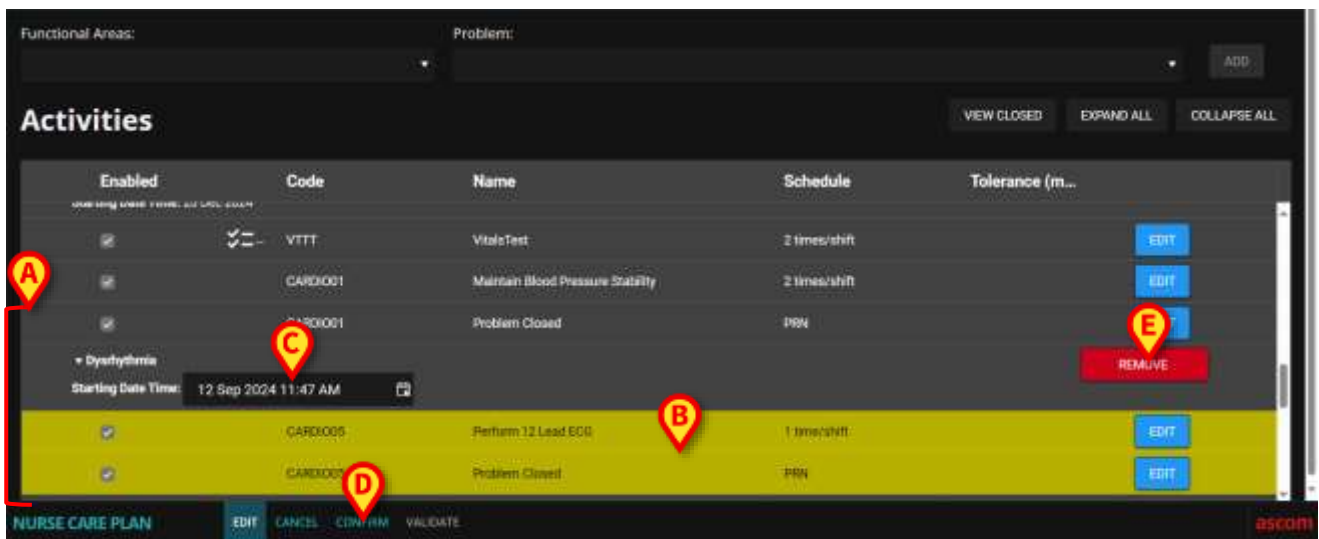

Fig 10
The activities list changes in the following way (Fig 10):
The new problem is added to the list (Fig 10 **A**). The corresponding activities are displayed in yellow, meaning that they are not confirmed yet (Fig 10 **B**).
The current day/time is selected by default as the starting date/time of the problem (Fig 10 **C**). It can be edited. To edit the date/time, either type the new value in the field or click the  icon to select the value on a selection tool. The date/time can be set in the past (in case the user is documenting something that occurred significantly before it was possible to use NCP) or in the future (in case it is necessary to prepare the plan in advance). The selectable time limits are within the existing plan, i.e.: the plan creation time is the limit in the past and the plan validity duration is the limit in the future.
The **Remove** button (Fig 10 **E**) allows to remove the specific problem, and only that one. If editing a plan and inserting multiple problems within the same procedure, this button makes it possible to remove single problems without canceling the whole procedure. The button, for example, is present alongside each single problem when selecting a standard plan (see section 2.2). After plan confirmation (see below), the **Remove** button is not available anymore.
- Click **Confirm** to confirm the changes made (Fig 10 D).
- 5) Set the required day/time, if different from “now” (Fig 10 C).
- 6) Click **Confirm** to confirm the changes (Fig 10 D).